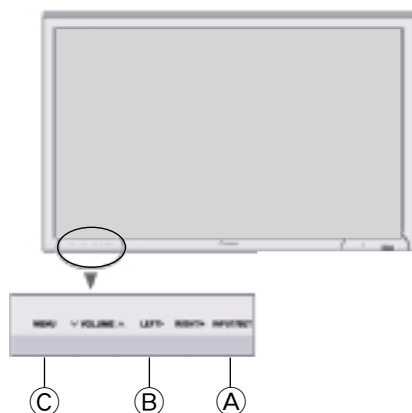

Fig. 1
To enter Service mode, simultaneously press the INPUT/SET key (A) and LEFT/- key (B) located at the lower left of the front panel of the unit. Then press the Menu key (C) to display the Service Mode menu. To display the accumulated power-on time, select HOUR METER, using the CURSOR keys (D) on the remote control unit. (See Figs. 1 and 2)